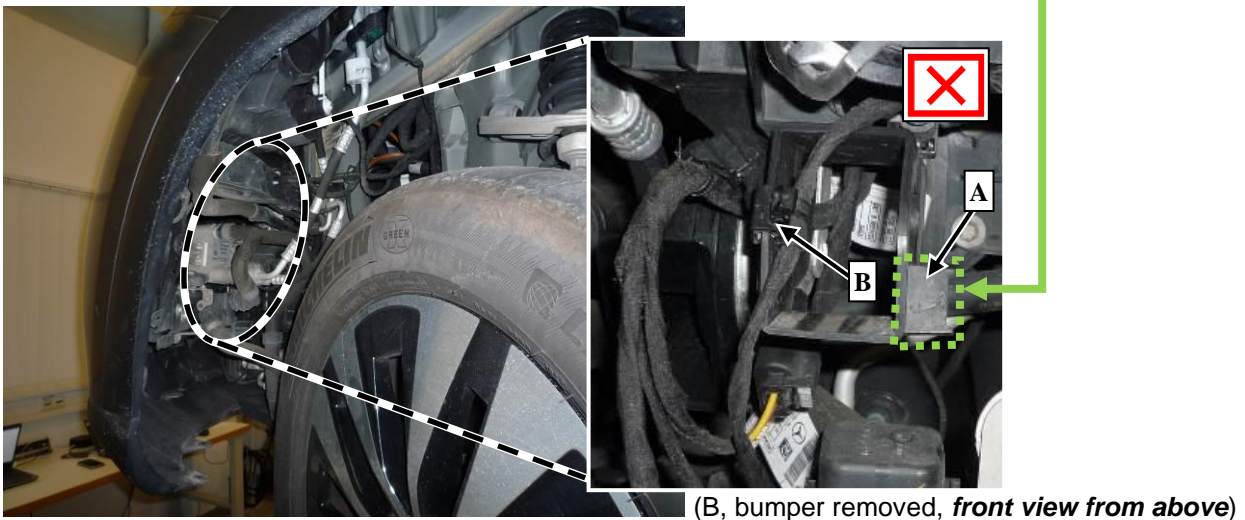

Figure 3
Incorrect assembly position: (**Figure 3, B**).
- b. Wiring harness bracket **incorrectly** (**Figure 3, B**) installed: Perform **Work Procedure**.
i Wiring harness bracket is attached to the existing tab (**Figure 3, A**).